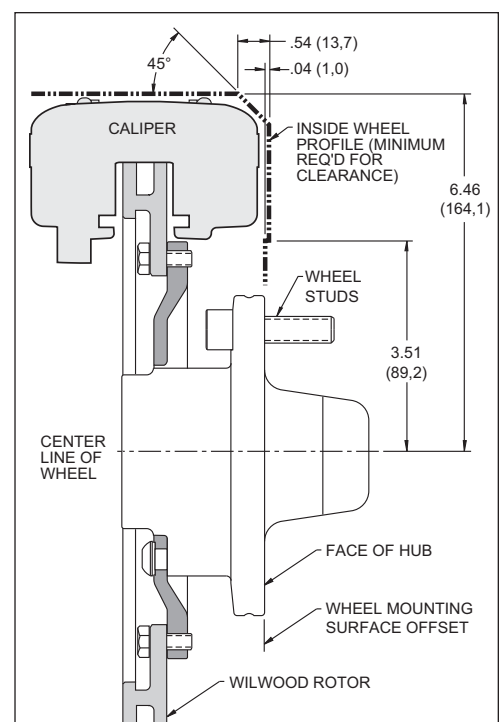

Figure 2. Wheel Clearance Diagram
- Review the wheel clearance diagram (figure 2, page 3) to verify that there is adequate clearance with the wheels you will be using with the installation.
- Verify your wheel clearance using Figure 2